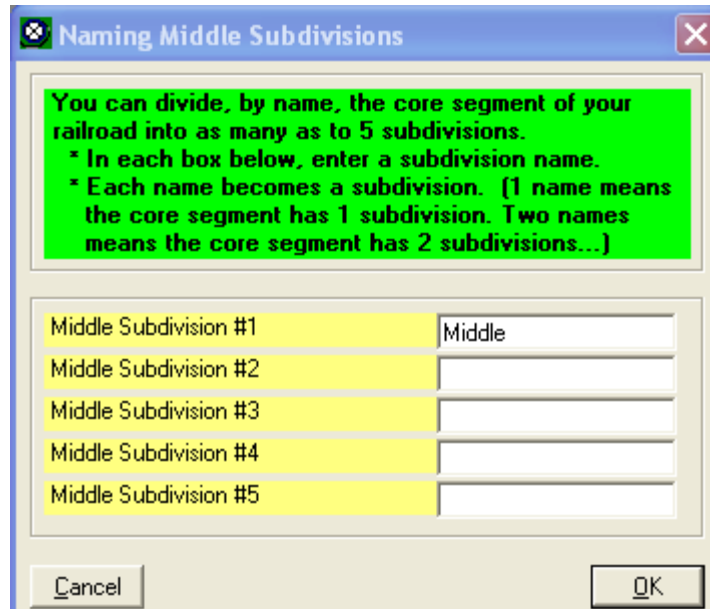

Figure 1-9
- g) Click on "Yes" to choose to view the subdivisions on Middle; the window displayed in Figure 1-9 will appear.